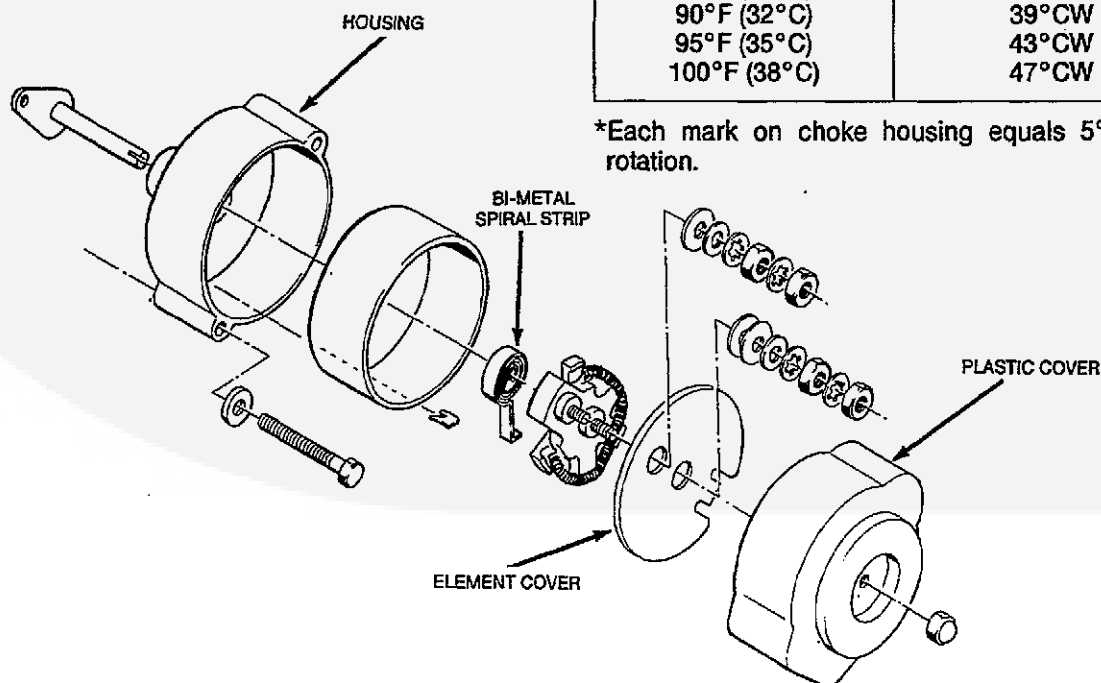

FIGURE 6-24. CHOKE ASSEMBLY
1. Remove the plastic choke cover (see Figure 6-24) and loosen the heating element cover screws.